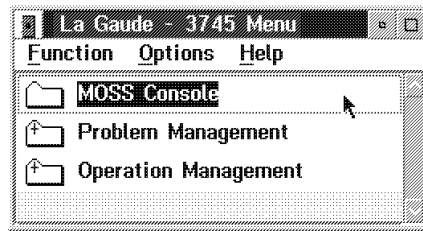

Figure 5-1. 3745 Menu
- c. \_\_\_\_ Double click on "**MOSS Console**" (see Figure 5-1)